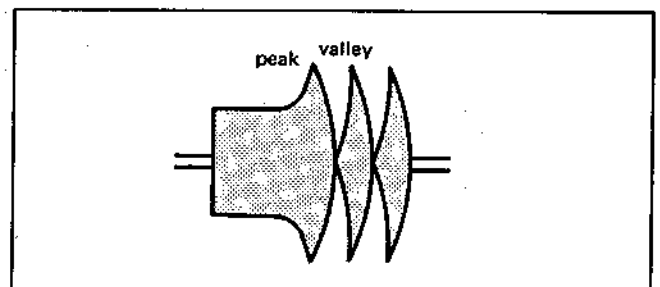

Fig. 2-15
- While observing the RF output waveform, turn the ACE lateral adjustment screw slowly counter-clockwise, confirm that there are peaks and valleys as shown in Fig. 2-15 and stop turning.